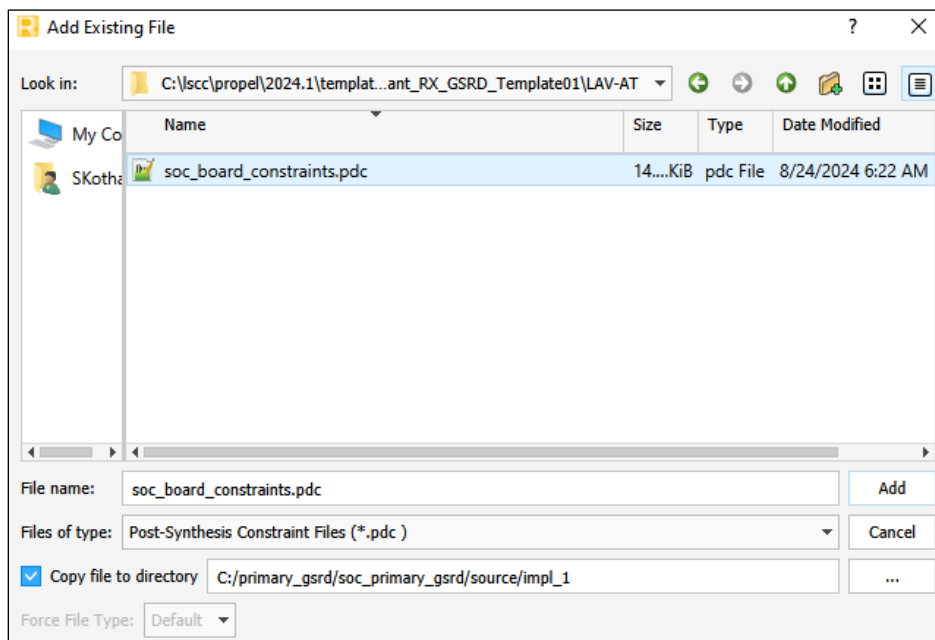

Figure 8.51. Select soc\_board\_constraint.pdc File
7. Similarly, add the soc\_board\_constraints.pdc file to the Post-Synthesis Constraint Files as shown in Figure 8.51. Click **Add**.